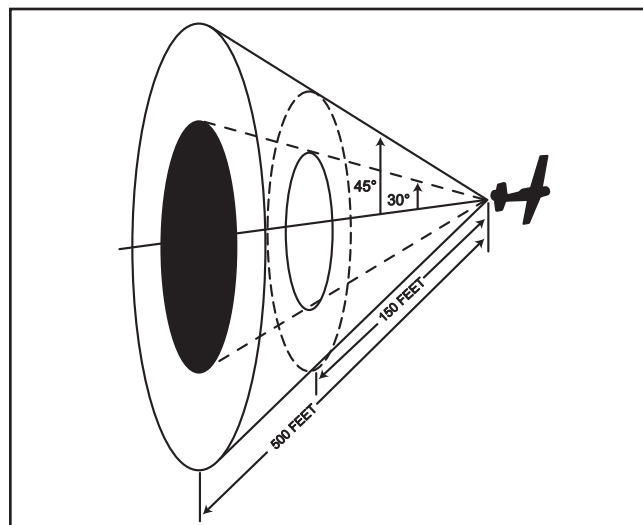

Figure 4.1 Prop Extended Trail Cone
2. Try to position yourself so you can always see Lead’s head/helmet through the side of his/her canopy. This reference will place you in the 30° to 45° donut. This oblique view of Lead will also make it easier to judge V_c , aspect angle (AA), and spacing because you have more aircraft mass to view, plus the advantage of parallax.
6. Fly directly aft of Lead only when crossing from one side to the other. If you must cross the upper (Lead’s six-o’clock high) portion of the cone, do so expeditiously because you and the instructor may momentarily lose sight of Lead. At all other times, fly in a donut around Lead’s six o’clock position as depicted in figure 4.1 or 4.2. Always cross above or below Lead’s prop/jet wash and relax back pressure if encountering wash to prevent an over-G. Based on the level of maneuvering, use caution during ET so as to not exceed your aircraft’s normal or asymmetrical G limits.